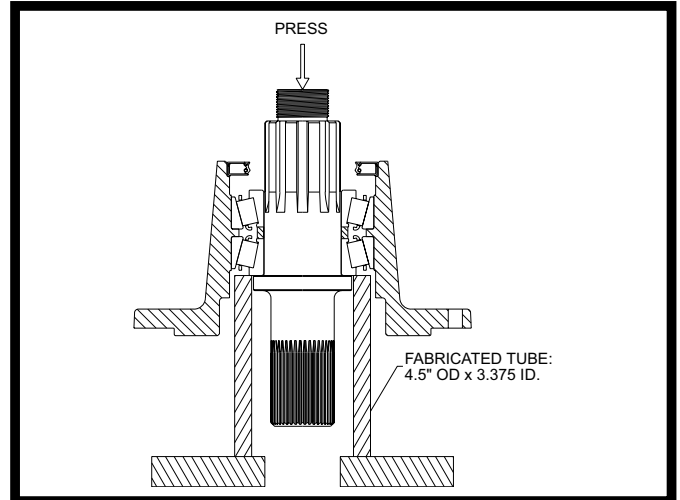

Fig 36
11. Place the assembly in a press as depicted in Figure 36. Note that a fabricated spacer tube is required. Press the shaft through and remove the inner bearing cone assembly, the spacer washer, and the carrier assembly from the shaft.